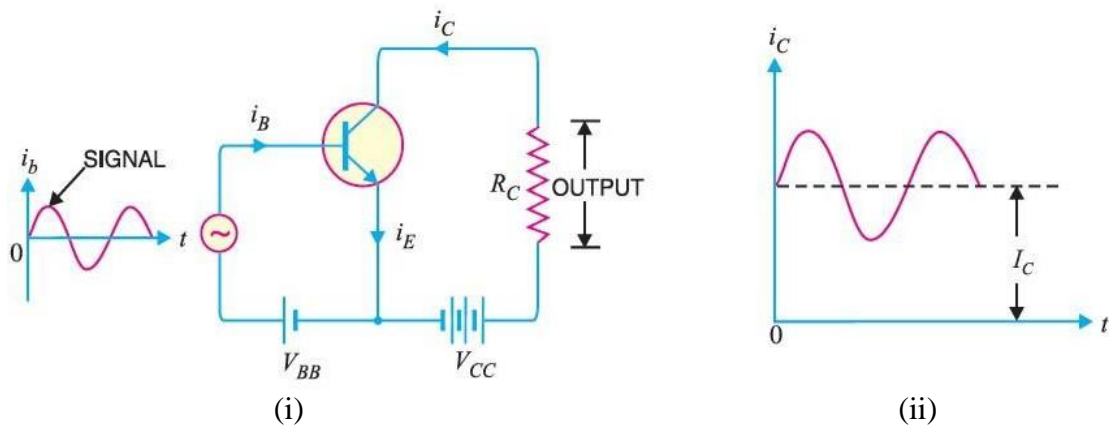

Fig. 30 Transistor as an Amplifier in CE Arrangement
Fig. 30(i) shows the common emitter (CE) npn amplifier circuit. A battery V_{BB} is connected in the input circuit in addition to the signal voltage. This d.c. voltage is known as **bias voltage** and its magnitude is such that it always keeps the emitter-base junction forward biased regardless of the polarity of the signal source.